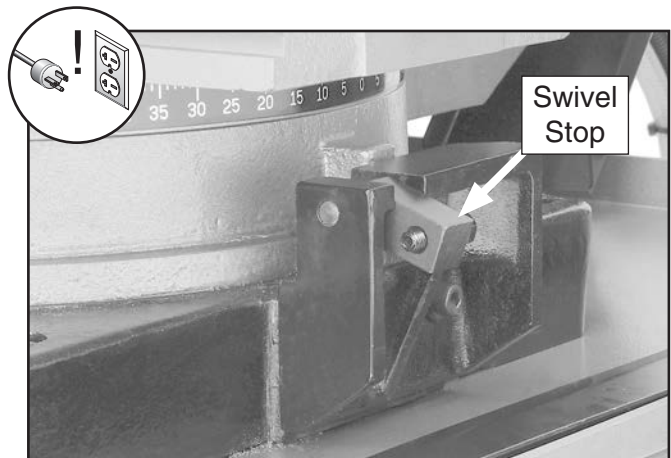

Figure 44. Example of swivel stop disengaged.
3. Flip swivel stop out to disengage (see **Figure 44**).